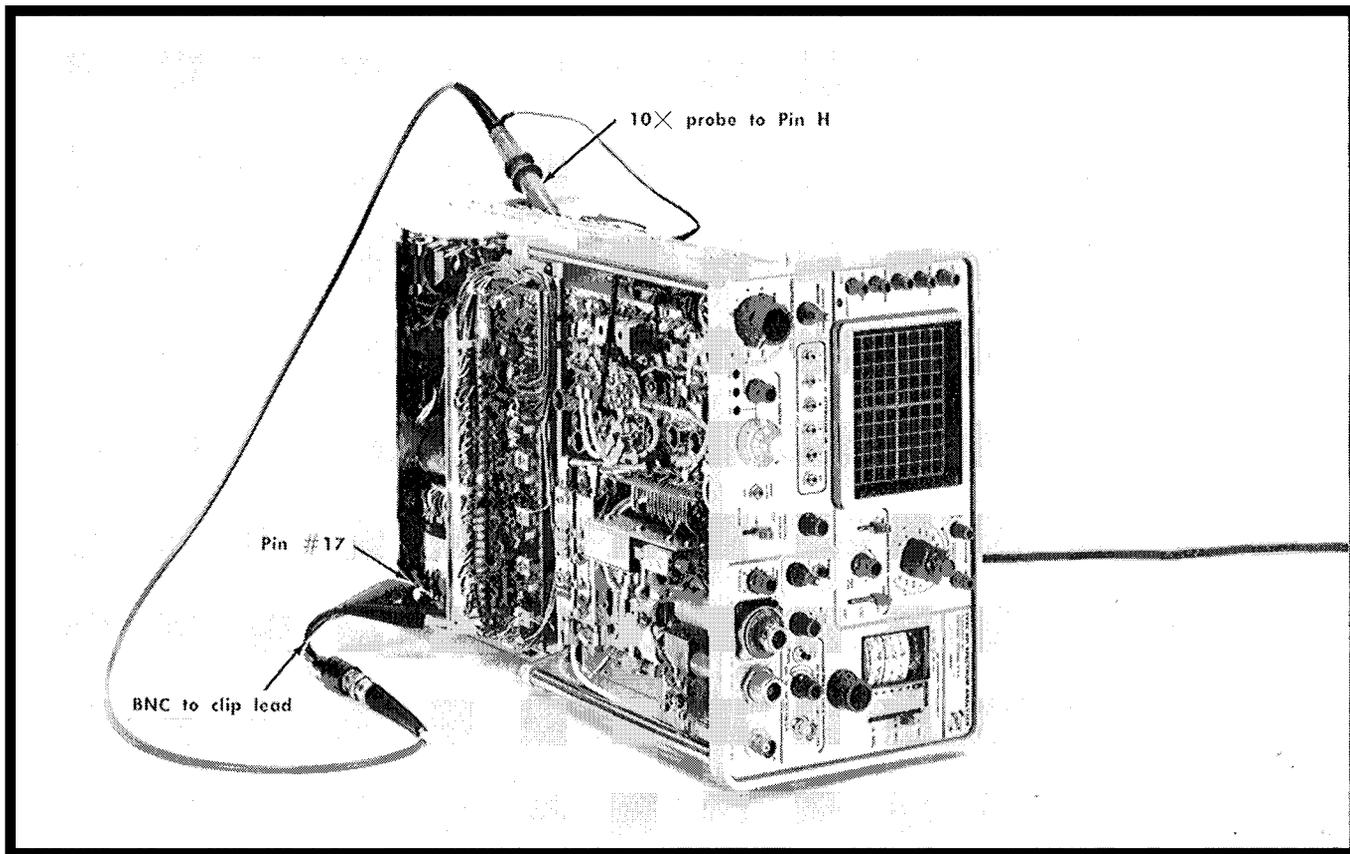

Fig. 6-13. Setup to check LINE triggering operation.
- a. Equipment setup is shown in Fig. 6-13.
- c. Turn the POWER switch OFF, then connect a 10X test probe and a BNC to clip lead adapter between pin H of the Vertical Amplifier circuit board and pin 17 of the power transformer. See Fig. 6-13.